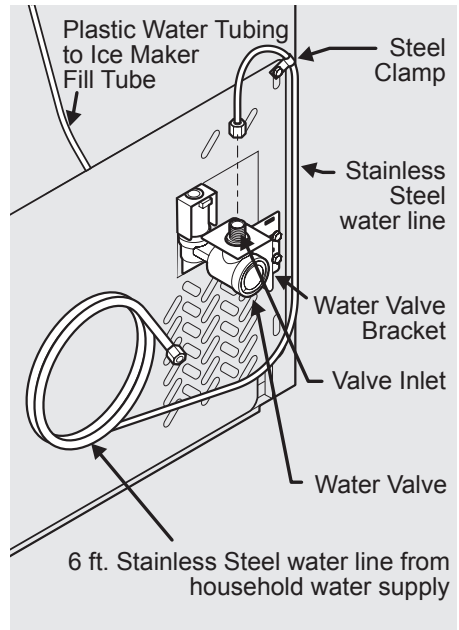

Figure 2
**If you use stainless steel tubing** - The nut and ferrule are already assembled on the tubing. Slide compression nut onto valve inlet and finger tighten compression nut onto valve. Tighten another half turn with a wrench; DO NOT over tighten. See Figure 2.